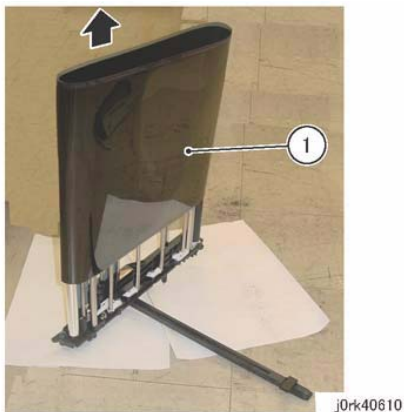

Figure 9 Transfer Belt Removal
11. Remove the Transfer Belt. (Figure 9)